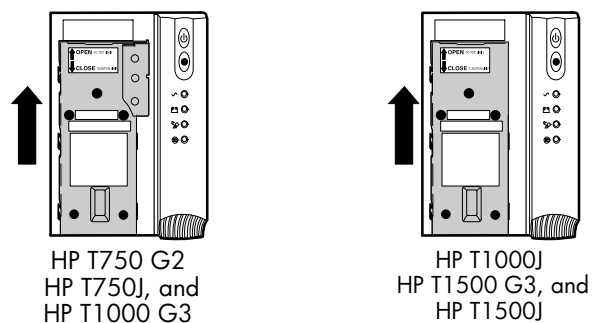

Figure 22 Removing the Battery Cover
- Slide up and remove the metal battery cover (see Figure 22). Do not remove any screws.